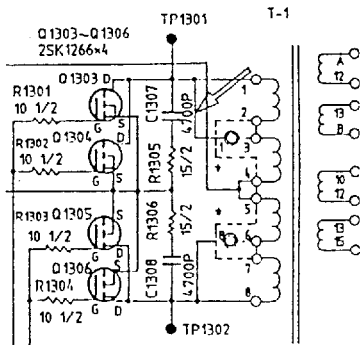

Figure 6-24
**NOTE:** For POWER SUPPLY Board version no. PTU-8764-11, the pattern between TP1301 and 1 (see arrow in Fig. 6-24) is missing. If the input voltage is changed to 12 VDC, please add this pattern as shown in Fig. 6-25. This modification is not required for POWER SUPPLY board version no. 22, which will be produced from 3/91.